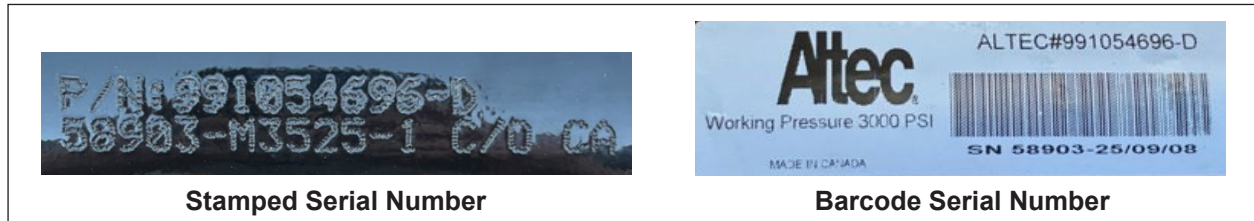

Figure 2 — Example Suspect Cylinder Numbers
5. Review the serial numbers on the top upper boom cylinder near the rod end for the suspect serial numbers (refer to Figure 2).